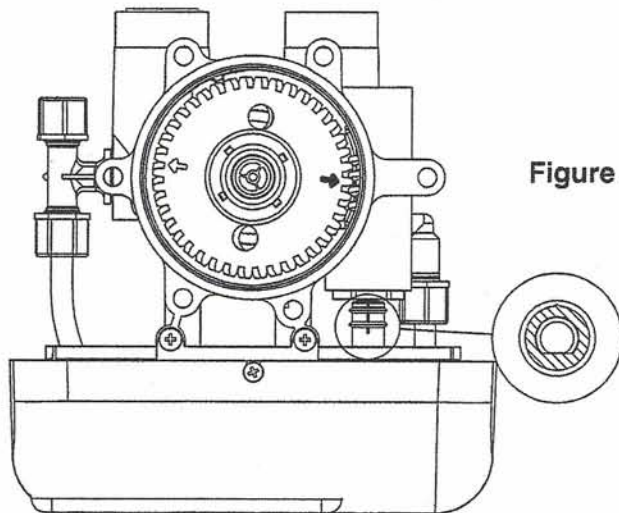

Figure 2
3. Make sure the flat side on the worm drive shaft is pointing down and the mark on the drive shaft is pointing up (Figure 2). If this is not the case, please refer to "Drive Motor Replacement" on page 30.